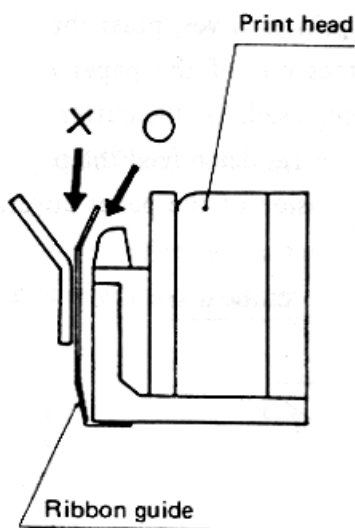

Fig. 12
- 2) While inserting the ribbon into the space between the print head and the ribbon guide, press the cassette into the holder unit until it clicks into place. (Refer to figure 12 & 13.)